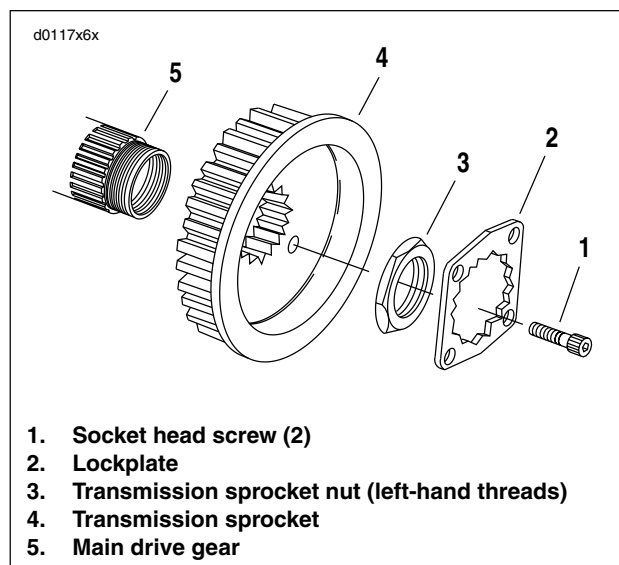
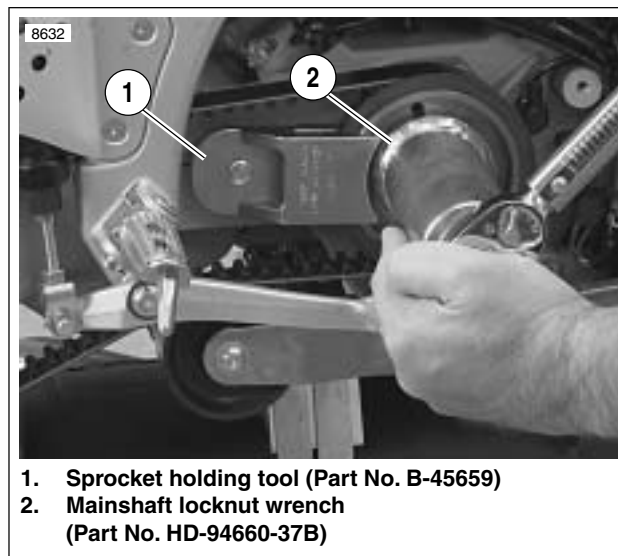

Figure 6-94. Transmission Sprocket
Figure 6-95. Transmission Sprocket Tightening
8. See Figure 6-94. Place transmission in first gear. Remove two socket head screws (1) and lockplate (2).
1. See Figure 6-94. Install transmission sprocket (4) with secondary drive belt onto main drive gear (5).
3. Apply a few drops of LOCTITE 262 (red) to the **left-hand threads** of transmission sprocket nut (3) and lightly coat the washer-faced side with clean H-D 20W50 engine oil. Wipe off any excess oil.
5. See Figure 6-95. Install SPROCKET HOLDING TOOL (Part No. B-45659) as shown.
9. See Figure 6-94. Install lockplate over nut so that two of lockplate's four drilled holes (diagonally opposite) align with sprocket's two tapped holes.
10. See Figure 6-94. Install two socket head screws through aligned holes of lockplate and into tapped holes of sprocket. Tighten to 90-110 **in-lbs** (10.2-12.4 Nm).